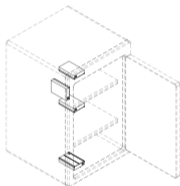

FIGURE 1
- Position the Safe Monitor in the safe with the laser sensor towards the safe door, as shown in Figure 1.